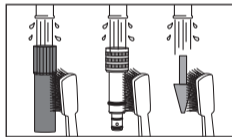

Fig. 34
- Clean the entire outer surface of the handpiece with a soft-bristled toothbrush for at least 15 seconds. (Fig. 34). For spray nozzles, clean the knurled part and the O-ring thoroughly. And for Tip Nozzles, clean the triangular part thoroughly.